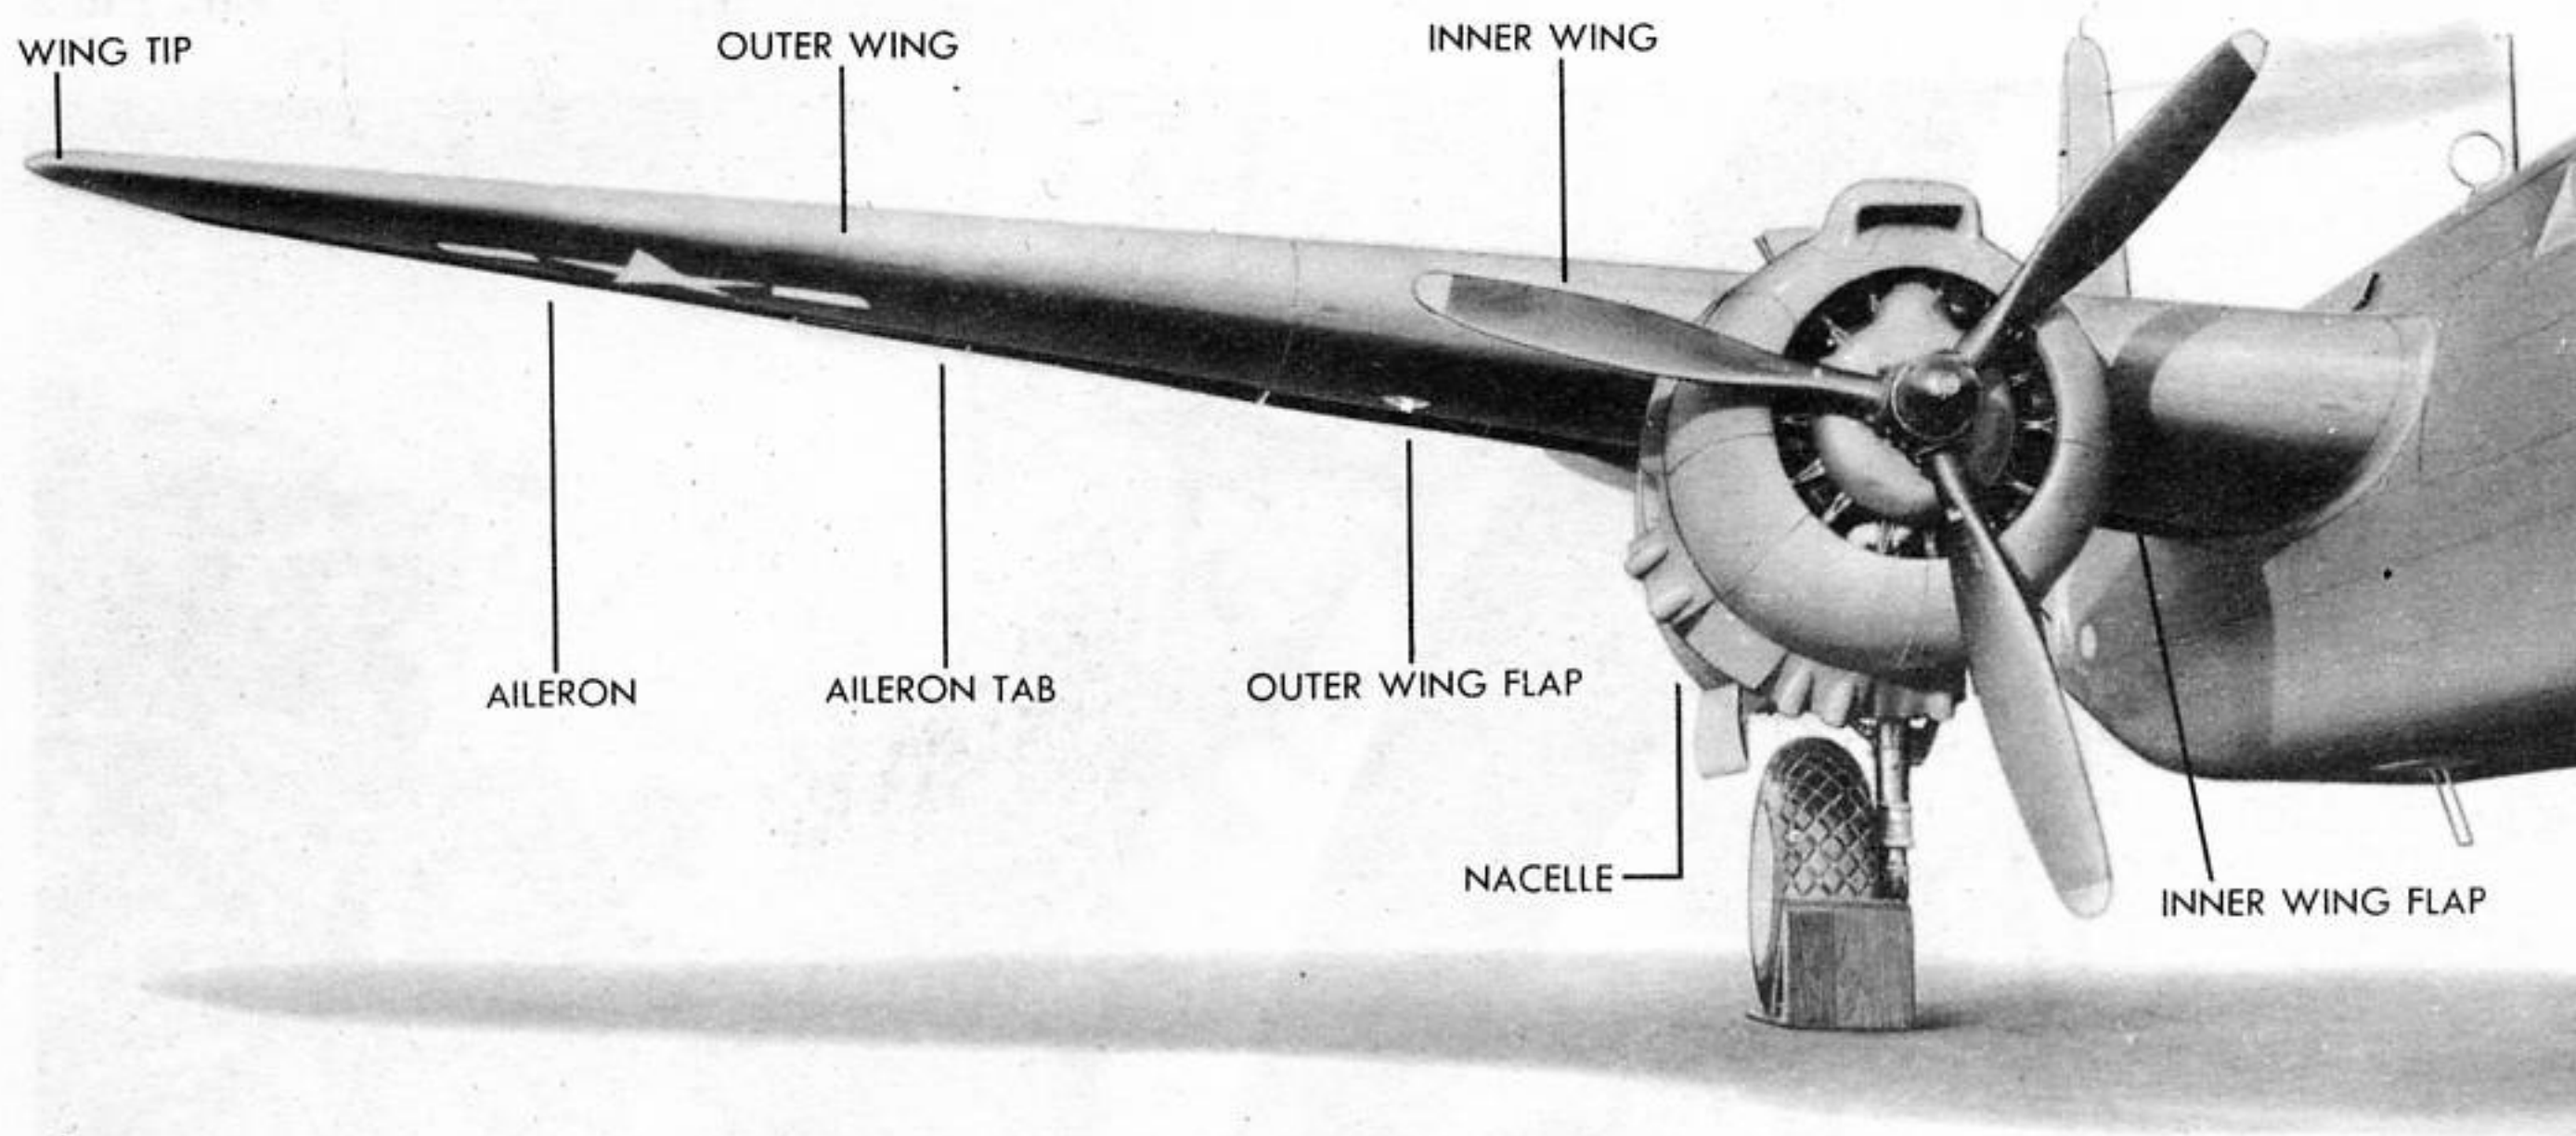

Figure 25 - INSTALLED WING
The engine nacelles are an integral part of the inner wings. Two landing flaps are secured to the trailing edges of the outer wings. (See figure 25.) Access doors and cover plates are located throughout the wings to provide for inspection and maintenance. (See figure 19.)
(2) WING TIPS. - The wing tip (figure 25) forms the outboard end of each wing and is formed of alclad sheet ribs, extruded angle longitudinals of aluminum alloy and alclad covering. Formation signal lights are located on the top and bottom sides of the wing tips. Each tip weighs slightly over five pounds.
(3) **AILERONS AND AILERON TABS.** - The aileron (figure 25) incorporates a main spar and an auxiliary spar for the tab to be fastened upon, with ribs spaced at approximately 12-inch intervals throughout the span. Sheet alclad is used for construction of the leading edge of the aileron to which are attached lead weights for static balance. These weights are secured to the alclad sheeting by flathead screws and elastic stop nuts or self-locking fiber insert nuts. Then the entire surface of the aileron is covered with fabric. The aileron tab is constructed of sheet alclad and, while it is part of the aileron, it may be operated with, or independently of, the aileron to control balance of the airplane in flight. The aileron is mounted on three hinging brackets at the rear shear web of the outer wing. Removal and assembly of the aileron and tab may be performed without removing the outer wing from the airplane. Each aileron weighs about 44 pounds.
(4) **OUTER WINGS.** - The outer wing (figure 25) incorporates a main spar and rear shear web with ribs spaced at approximately 12-inch intervals throughout the span. The assembly is made up of the wing, aileron, aileron tab, and wing tip.
(5) **OUTBOARD WING FLAPS.** - The flaps (figure 25) are hydraulically operated by actuating struts and serve as air brakes to decrease landing speed. The flaps are of all metal construction similar to the wing. Each of the two outboard wing flaps is hinged to the rear shear web of the inner wing outboard of the engine nacelle. A single wing flap weighs approximately 17 pounds.
(6) **INBOARD WING FLAPS.** - The inboard wing flaps (figure 25) are the same construction as the outboard flaps and operate the same. Each of the two inboard flaps is hinged to the rear shear web of the inner wing inboard of the engine nacelle.
(7) **INNER WINGS.** - Each of the two inner wings (figure 25) is of all-metal cantilever construction with an engine nacelle permanently attached. A single spar forms the basic structural unit. The front and rear shear webs provide additional strength. Each wing incorporates two flaps, a retractable landing light, and a detachable leading edge to provide access to the self-sealing fuel containers. An inner wing weighs approximately 2200 pounds without engine or landing gear.
(w) Install inner wing installation sling, special tool, S65-5062401-HF1 (figure 25), if available. When not available, the wing can be supported by a chainfall (not less than 1 1/2-ton capacity) or by block and tackle made of 3/8-inch or heavier manilla rope, or by a sling cradle made of heavy manilla rope. When using a sling cradle, the outboard end of the wing tends to raise too fast and bind the bolt. To overcome this trouble, cinch tightly the two inboard hoist lines and allow the outboard line to be slightly slack.
(z) Hoist the wing and remove to suitable support such as inner wing dolly, Douglas tool, S65-5056025-HF7. (See figure 25.)